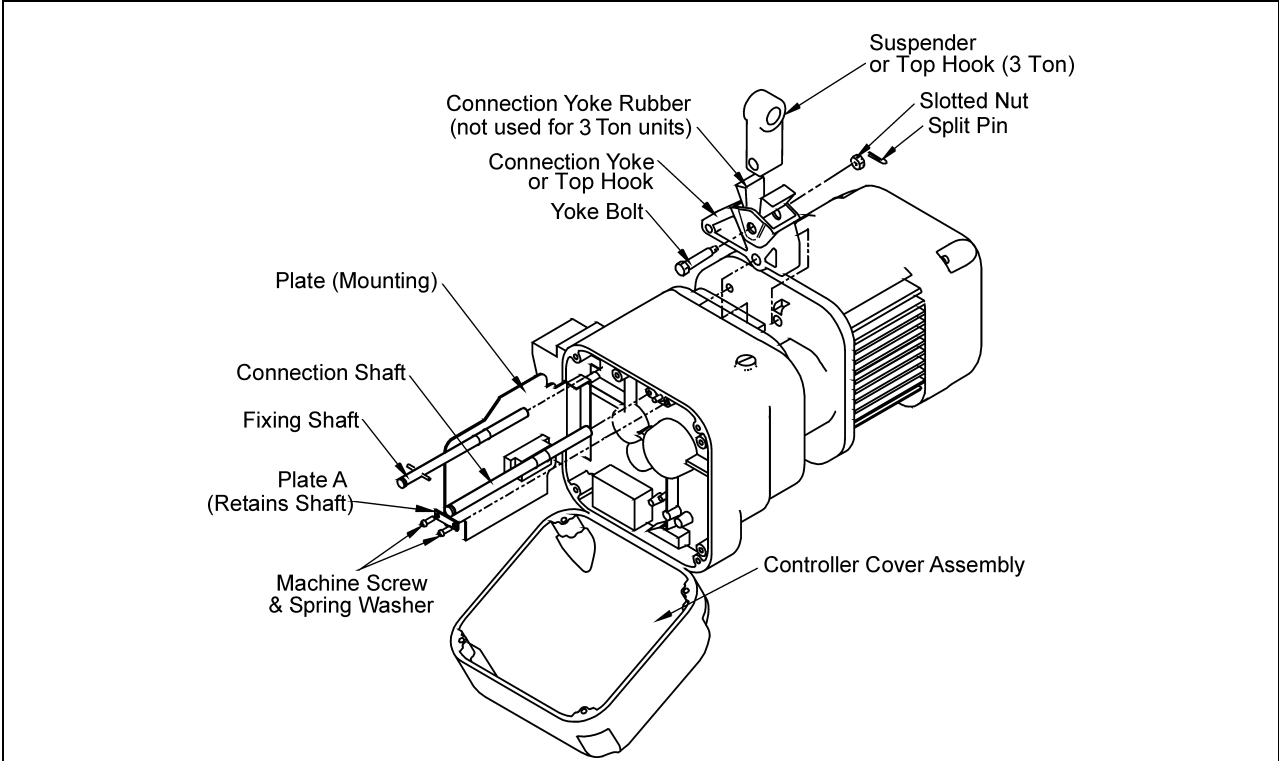

Figure 1 Accessing the Hoist Fixing Shaft and Connection Shaft.
- 1) Refer to Figure 1 for steps 2 through 9.
- 2) Refer to Figure 1 for steps 3 through 9.